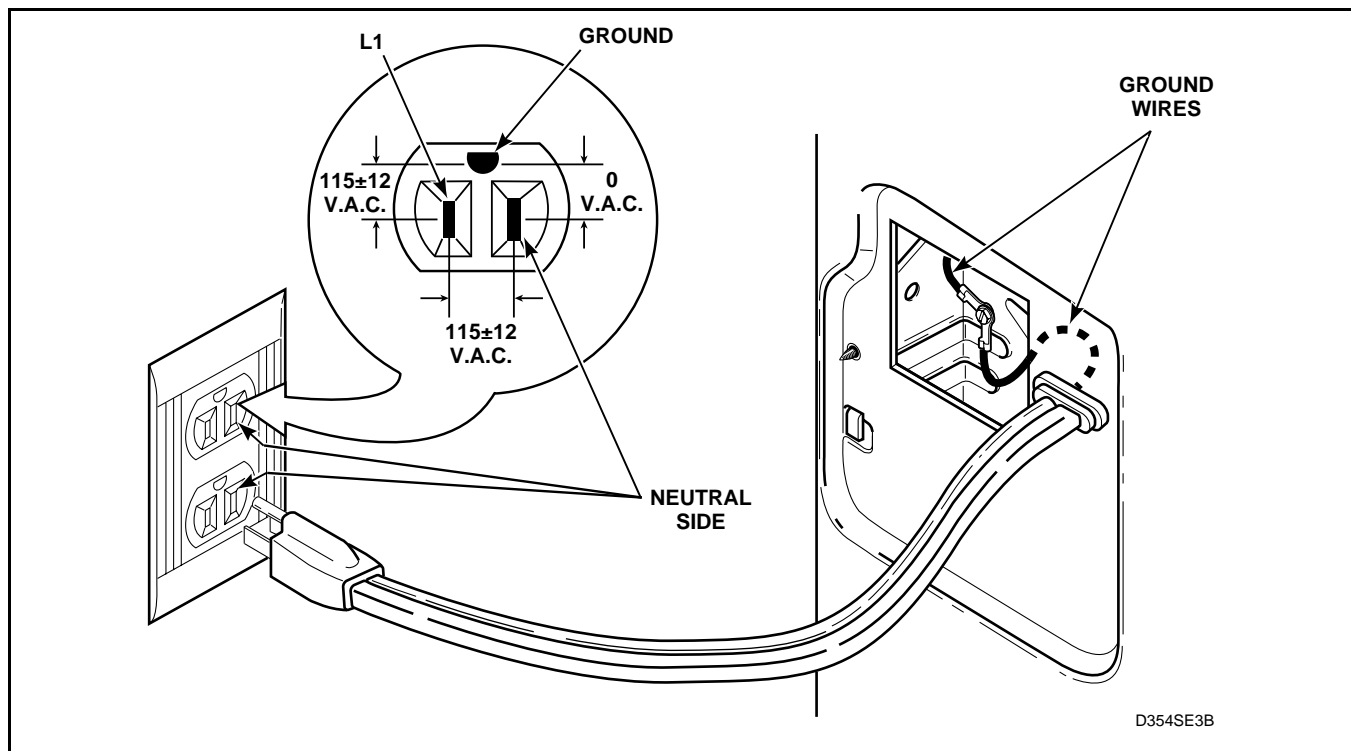

Figure 41
- (3.) Remove screw holding power cord ground wire to rear bulkhead. See *Figure 41*.